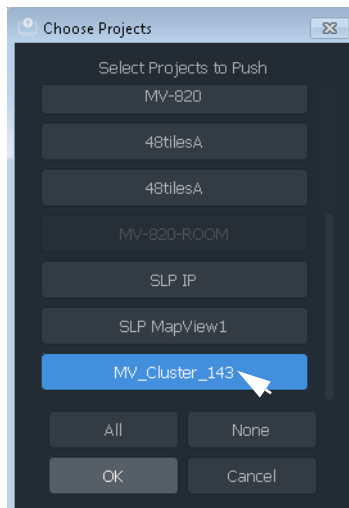

Fig. 15-14: Choose Push
- 2 Ensure that the project Repository to be pushed is selected (highlighted in blue) in the dialog. See Figure 15-14.